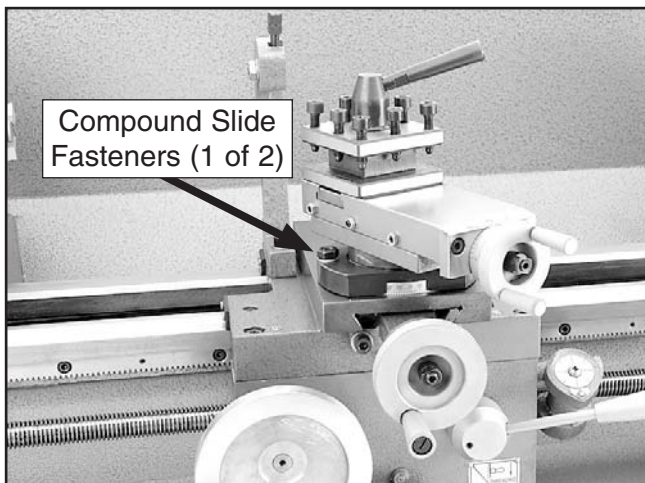

Figure 72. Compound slide fasteners.
1. Loosen the hex nuts and remove the set screws and flat washers that secure the compound slide to the cross slide (see **Figures 72–73**).